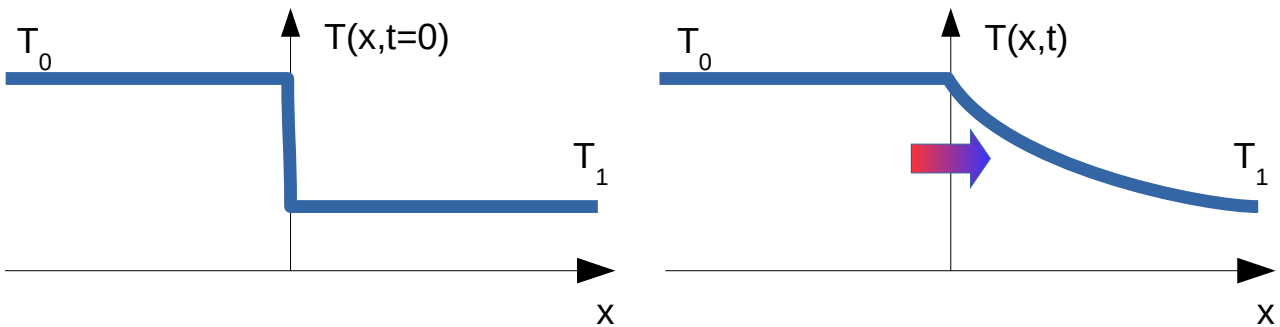

Figure 6: Transient diffusion regime
- We consider the case where a body is put in contact with a thermostat at temperature T_0 at time $t=0$ (Fig. 6). The body temperature far from the contact is T_1 . Heat starts then to diffuse towards $x \geq 0$: